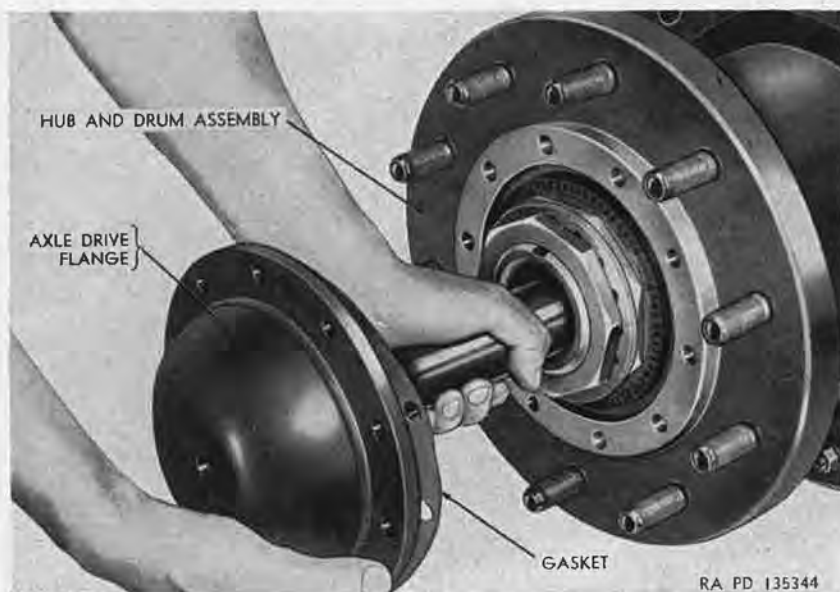

Figure 229. Removing rear axle shaft.
b. Removal. Remove 10 cap screws and lockwashers securing axle drive flange (fig. 229) to hub and drum assembly. Withdraw shaft from hub by pulling on axle drive flange. Remove and discard flange gasket.
c. Installation. Make sure axle shaft is clean. Slide new gasket (fig. 229) over splined end of shaft and hold in place on flange. Insert splined end of shaft in hub, and push axle drive flange inward toward center of truck, carefully guiding splines on end of axle shaft into splined differential side gear. Align holes in drive flange and hub, and install 10 cap screws and lockwashers. Tighten cap screws to 70 to 80 pound-feet torque.